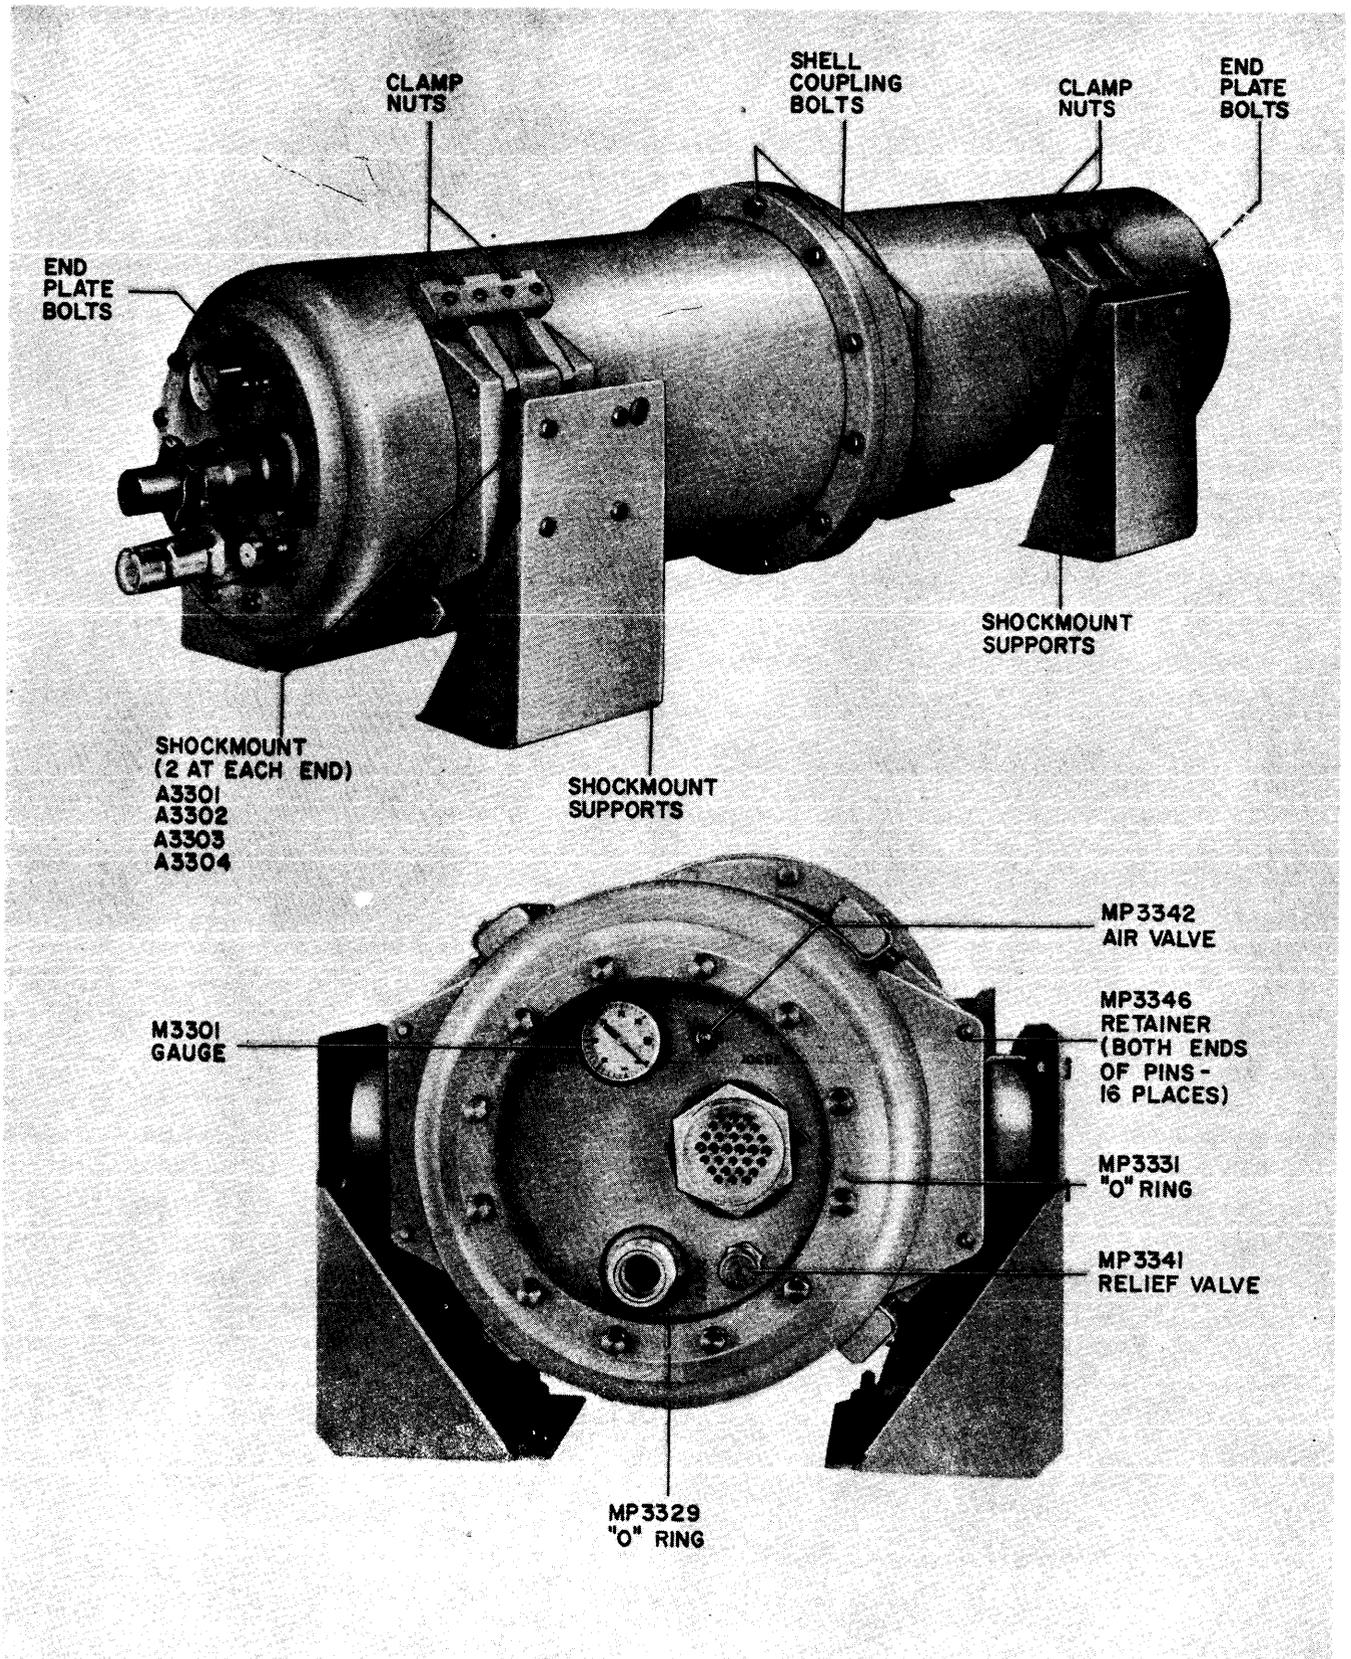

Figure 6-23. Radi Frequency Tuner TN-342/WRT-2, Rem val of Case
Remove the four bolts which secure each shockmount to its support. Remove the r-f tuner from the supports. Do not dent the case or strike the receptacles, valves, etc., which protrude from the ends of the case. Refer to figures 6-23 and 6-24 during removal and disassembly.
(2) REMOVAL OF R-F TUNER FROM CASE.—To remove the r-f tuner from its case, refer to figure 6-23 and proceed as follows: